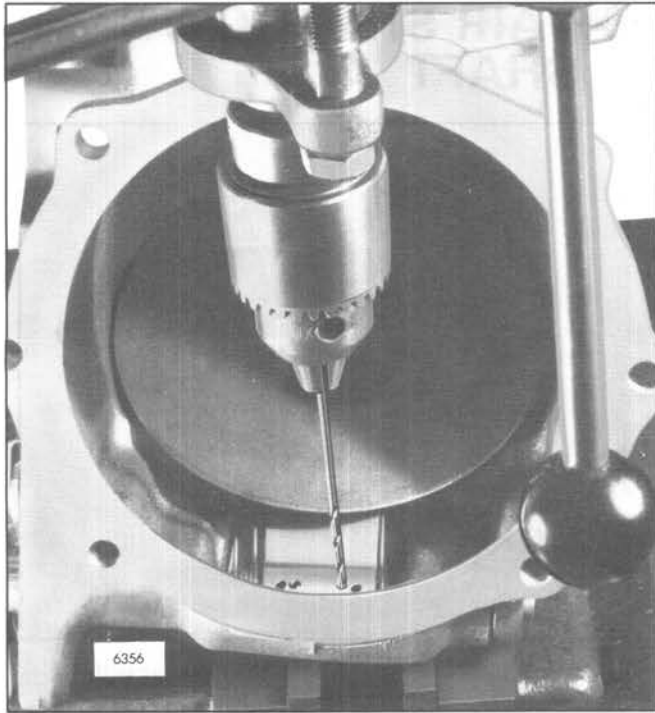

Fig. 7 - Drilling Valve-to-Shaft Holes
8. Place the housing on the drill press. With the valve held in the wide open *run* position, align the 1/8" drill bit with the marks center punched on the valve in Step 6. Then, drill through the valve and shaft (Fig. 7). Install the retaining pins to hold the valve to the shaft.